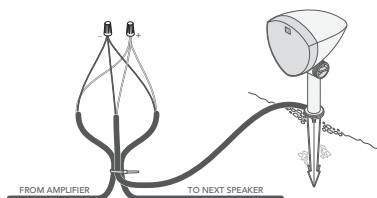

Figure 8
8. Cut the two wires for the left or right speaker (see the tables below) and strip 3/4" of insulation on the exposed ends of the burial wires, then strip 3/4" insulation from the ends of the corresponding speaker's pigtail (see Figure 8).
9. Create a loop of approximately 10", and use a wire tie to hold the wire loop and speaker pigtail in place to provide strain relief (see Figure 8).